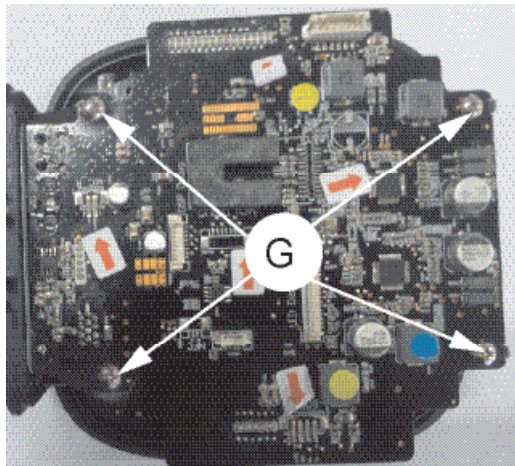

Figure 9
- 1) Loosen 4 screws "G" on the top of DSP & MCU & AMP Board as shown in figure 9.